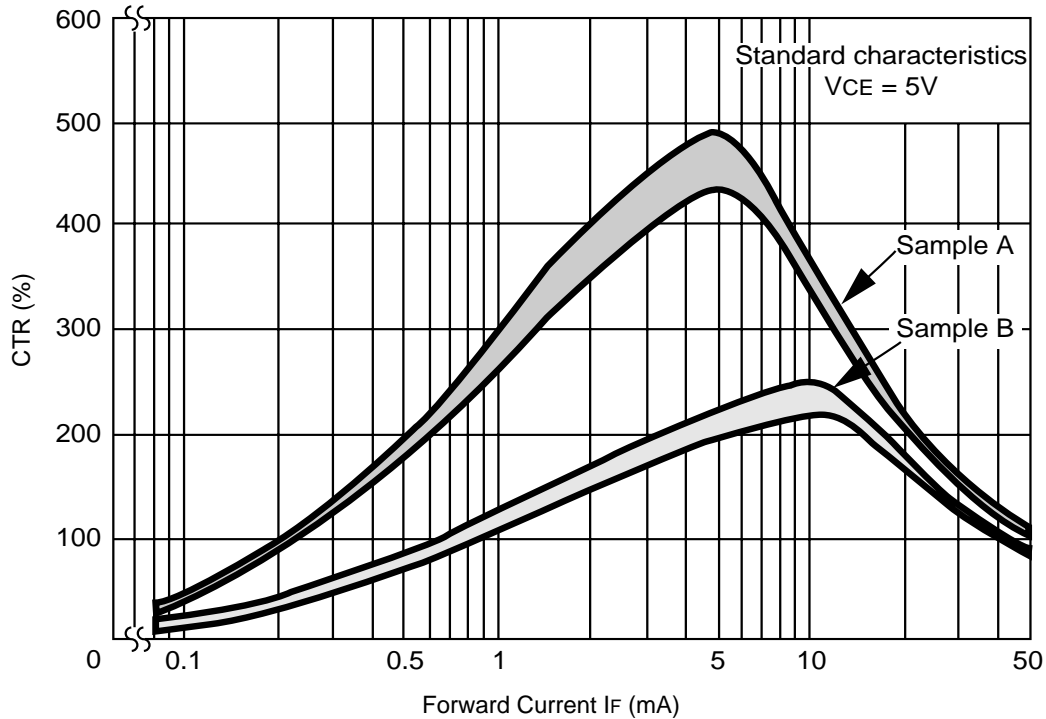

Figure 9. CTR vs. IF Characteristics (Standard Value)
The current transfer ratio (CTR) depends upon the magnitude of a forward current (IF). When IF goes lower or higher than a proper magnitude, the CTR becomes smaller. Figure 9 shows the CTR vs. IF characteristics. Note that rate changes of CTRs are very different at low IF magnitude (approx. 5 mA), middle IF magnitude (approx. 5 mA), and high IF magnitude (approx. 20 mA). Namely, the CTR depends heavily upon the magnitude of forward current IF in lower and higher current ranges. For low-input and high-output switching, see Chapter 4.